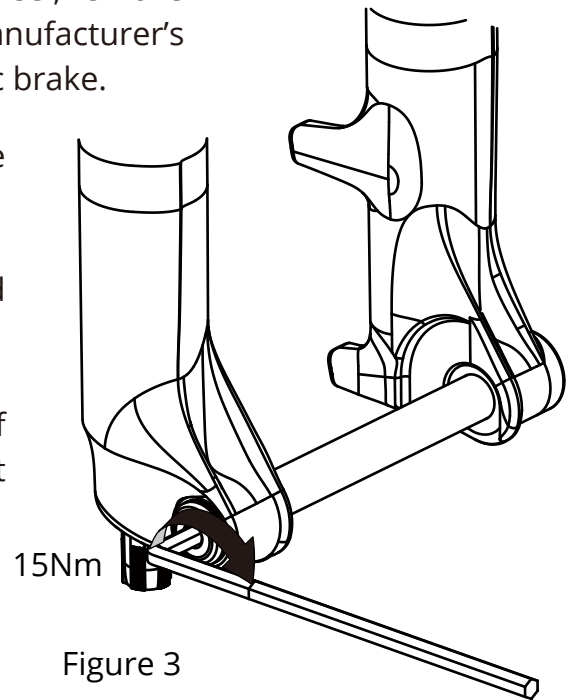

Figure 3
3. Tighten the thru-axle by using 6mm Allen key to standard torque value 15Nm (Figure 3)